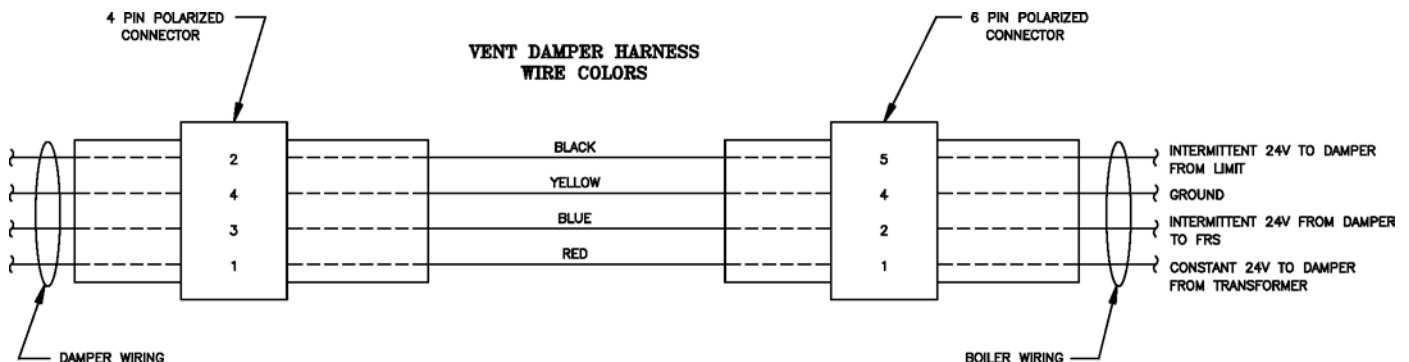

Figure 12: Vent Damper Schematic Wiring Diagram
- G. Vent Damper Sequence of Operation.** See Figure 12.